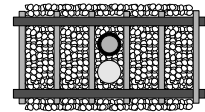
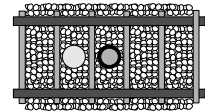
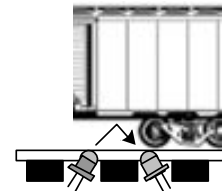

Figure 7a
Figure 7b
Figure 7c
The **Block Animator (BA)** provides automatic operation of two 3-color block signals in a semi-prototypical way. Four pairs of Infrared (IR) emitters and detectors are used for bidirectional train detection. Detection is achieved when the IR beam from the emitter reflects off the underside of the train back down to the detector. **Despite the use of infrared components you could still encounter false triggering from overhead lighting. This is usually eliminated with angled sensor mounting (Figure 7c) and/or proper sensor sensitivity adjustment (page 5). This version of the BA must be powered from either a 7-9V AC or 9-12V DC power source (such as our 12VPSR). Do NOT exceed these limits!** The layout of the signals and IR components is illustrated at left below; the illustration on the right is a side view of the IR detection method.
The IR components should be mounted between the rails. Drill two 11/64" holes, approximately 1/4" apart, through the ballast, roadbed, and sub-roadbed. For the smaller scales this drilling may end up hitting the ties. Take your time so you don't mangle them! Figure 7a illustrates the suggested placement of the IR components between the rails; you may also locate them a tie apart from each other (Figure 7b). Insert the leads of one IR emitter (white and black wires) into one of the holes (it doesn't matter which one!) from the top of your layout. Repeat for the IR detector (blue and black wires). The tops of the components should sit no higher than the top of your ballast for optimal IR performance; in some cases (e.g. false triggering) it may be necessary to locate the components a little below the ballast line. You can extend the leads with similar (or larger) wire. We recommend soldering and insulating these connections. Once you have wired the IR components and verified their operation you may wish to put a dab of white glue or silicone caulk where the wires exit the holes underneath the layout. This will help to hold the components in place; make sure you don't get any substance (e.g. ballast or glue) on the top surface of the IR components as this may prevent them from operating properly. **Figure 7c is a variation of Figure 7b. In this case the IR components are mounted at an angle to each other. The benefit of this method is reduced false triggering from overhead light and increased detection reliability in smaller scales or irregular bottoms on rolling stock.** The spacing between the outer sensors (W1 and E1) and inner sensors (E2 and W2) depends upon how long of a signal "block" you wish to define for each signal. However, keep in mind that there is a 35 second timeout that the BA uses. This means that if it takes more than 35 seconds for a train to activate the nearest inner sensor after clearing an outer sensor then the BA will think the train has actually backed up and exited the block!